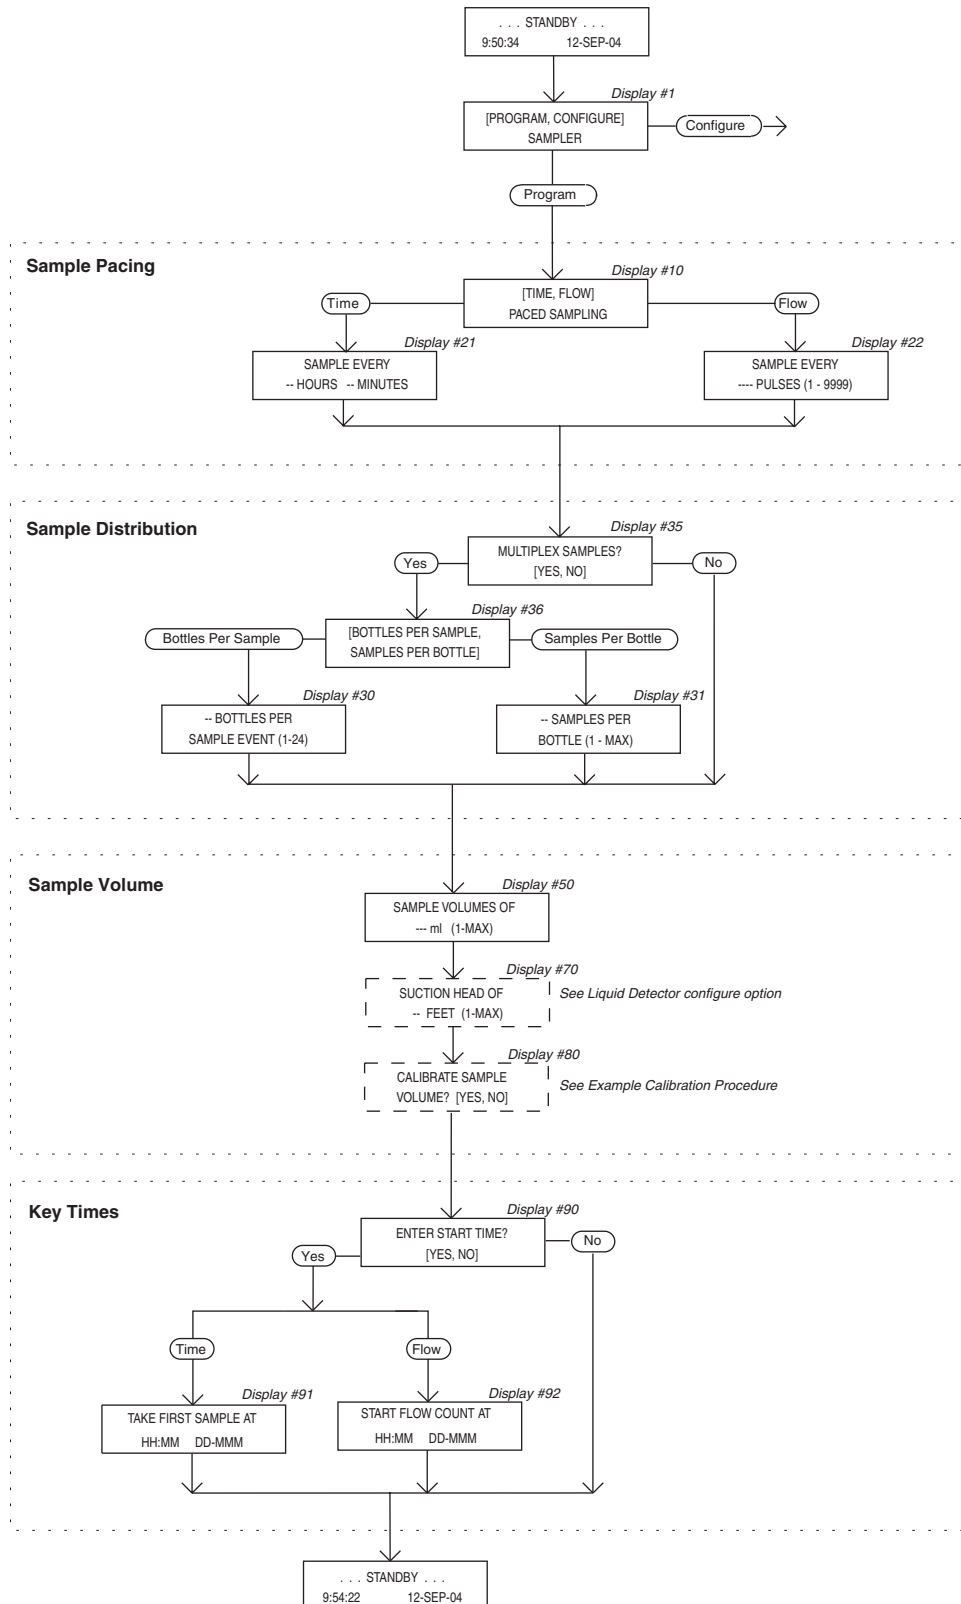

Figure 3-8 Basic Programming Mode: Program Sequence Structure
Flow charts accompany examples for both programming modes. These charts diagram the program sequence structure for each mode. Figure 3-8 charts the Basic Programming Mode structure. Figures 3-10, 3-11, and 3-12 chart the structure of the Extended Programming Mode. The charts are provided to act as a “map” to the programming process. Both charts are divided into sections — Sample Pacing, Sample Distribution, Sample Volume, and Key Times — which correspond to the steps listed in the procedure discussed below. Each chart contains the input displays used in the sequence. The input displays on each chart are labeled with their display number so they can be cross-referenced with the listing found in Appendix D.
2. Press the ENTER/PROGRAM key to access the interactive state. Select “program.” Refer to Figure 3-8 for displays noted in Steps 3 to 6.